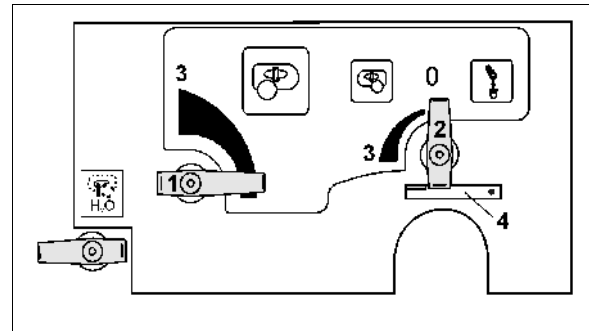

Fig. 44
- for the main agitator on the setting step tap (Fig. 44/1).
- for the auxiliary agitator on the setting step tap (Fig. 44/2).
When the step tap is in the 0 position the relevant agitator is switched off. The highest agitation intensity is achieved in position (Fig. 44/3).
Safety for the drainage function of the pressure filter (Fig. 44/4).